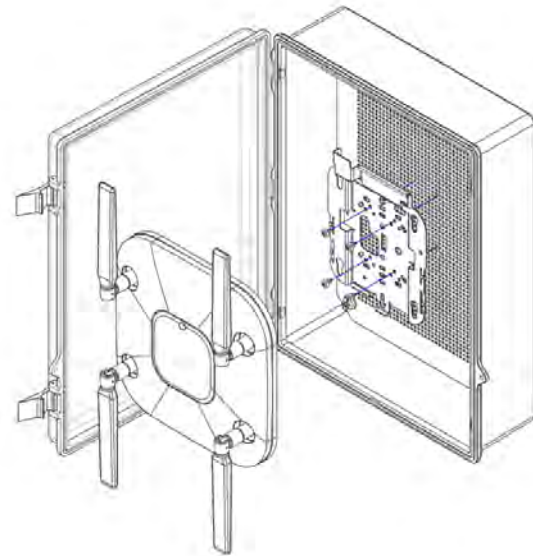

Figure 2
Step 2a – Securely fasten the access point's mounting plate to the enclosure panel using (4) # 8 self tapping screws. The assembly includes a T-bar bracket to attach to the panel so any Access Point can be mounted. **Use Cisco AIR-AP-BRACKET-2 for 2600e/3600e series Access Points and AIR-AP-BRACKET-1 for 3500e series.** (Figure 2)